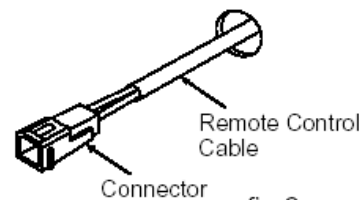

fig.2
3. Run the cable provided through the hole in the wall ensuring that the end fitted with the connector is nearest the controller. (fig. 2.)
4. Connect the spade connectors to the terminals marked "Remote Control" on the printed circuit board (fig.2). Polarity is not important. Either wire colour can be connected to either terminal.
5. Thread the 3 cables through the cable access hole at the base of the appliance. Connect the 4 spade connectors to the terminals marked "Remote Control" on the printed circuit board (fig.2). Polarity is not important. Either wire colour can be connected to either terminal.